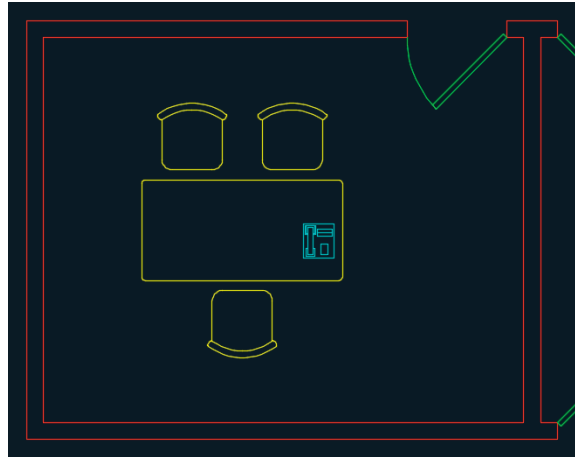

FIGURE 7.20 A phone nested within the desk block and surrounding chair blocks
6. Click the Close Block Editor button on the Close panel. Click Save The Changes To Desk in the dialog box that appears. Figure 7.20 shows the result.